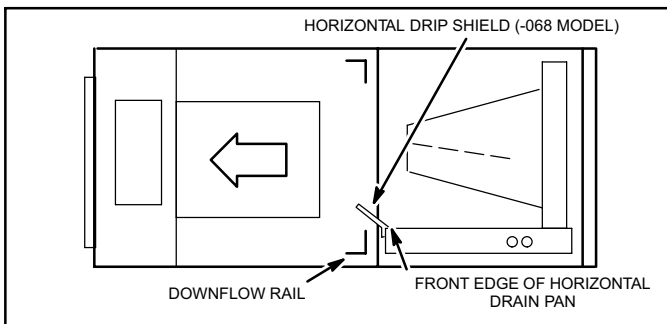

Figure 5. Left-Hand Discharge Configuration
- (-068 Model Only)** Install the horizontal shield on the front edge of the horizontal drain pan as shown in figure 5.